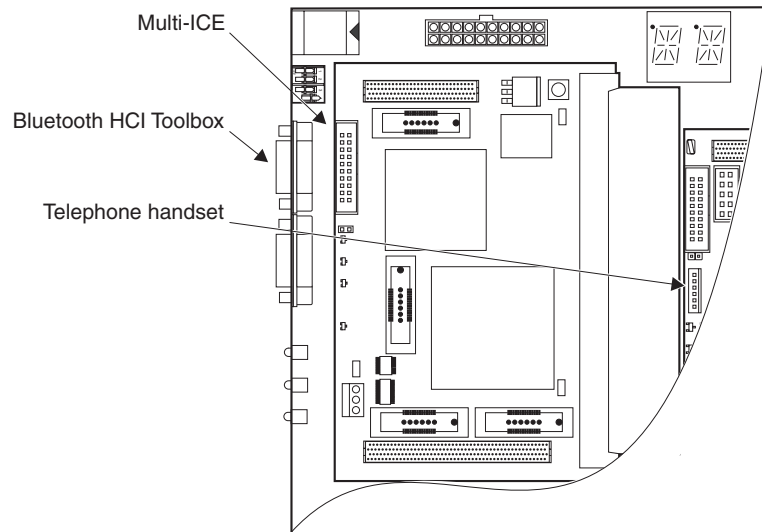

Figure 2-2 Equipment connections
4. Connect the BDP to a PC running the Bluetooth HCI Toolbox and Multi-ICE as shown in Figure 2-2 on page 2-4:
2. Connect the terminals to the serial ports to UART0 of each board (the same UART labelled 'Bluetooth HCI Toolbox' in Figure 2-2 on page 2-4).